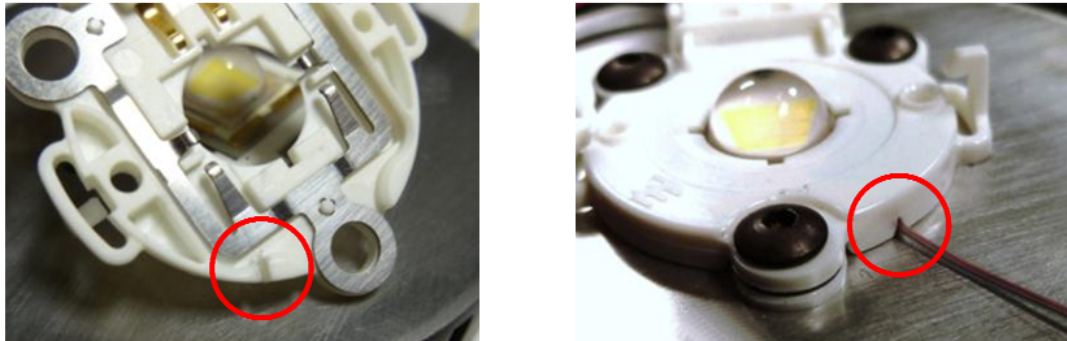

Figure 11. A small groove in the Solderless LED Socket, Type LS prevents the thermocouple from being pinched between the clamp and the heat sink.
5. Once the epoxy/compound has hardened, the LUXEON S emitter with thermocouple should be mounted onto the heat sink with the Solderless LED Socket. If necessary, make a small groove in the Solderless LED Socket to prevent the thermocouple from getting pinched between the heat sink and the clamp (Figure 11).